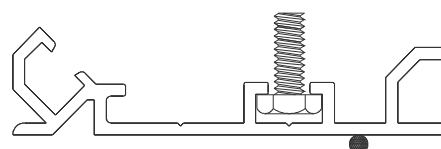

Figure 5
STEP 9. If additional watertightness is required, place a nominal 1/8" bead of silicone sealant (by others) onto the back side of the base member (see Figure 5).